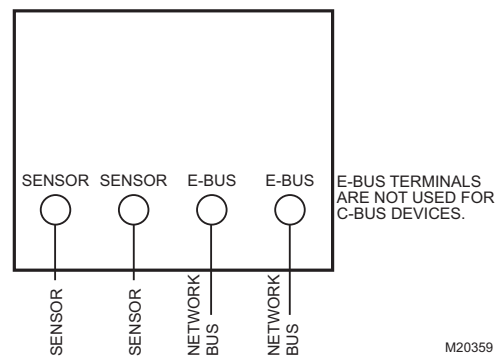

Fig. 5. Wiring diagram for T7770A20XX Wall Modules.
Attach the wires from the device sensor terminals to the appropriate wall module terminals. See Fig. 5 through 16.
4. Verify wall module wiring with Fig. 5 through 16.